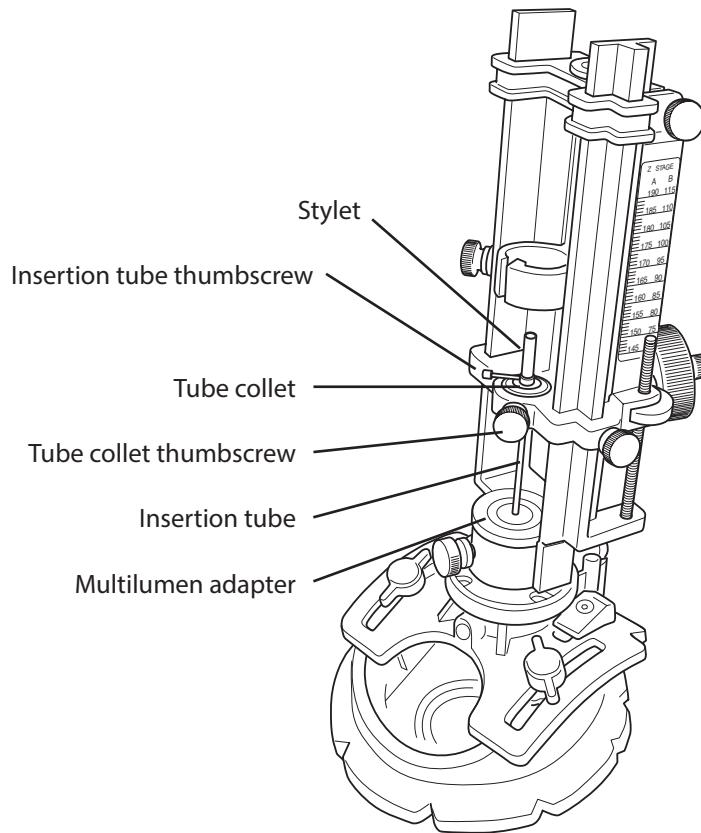

Figure 23. Insert the insertion tube with the stylet into the appropriate lumen of the tube collet and down through the multilumen adapter.
3. Insert the stylet into the insertion tube. Insert the insertion tube with the stylet into the center lumen of the tube collet down through the corresponding lumen of the multilumen adapter (Figure 23). Secure the insertion tube by tightening the tube collet thumbscrew.
4. Remove the stylet, insert the spacer tube into the insertion tube, and secure with the insertion tube thumbscrew if applicable (Figure 23).